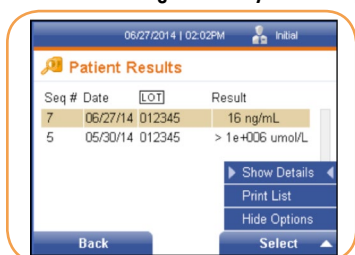

FIGURE 58
- Press the right soft key to view options available under the Patient Results screen. The Options menu is displayed (Figure 58).